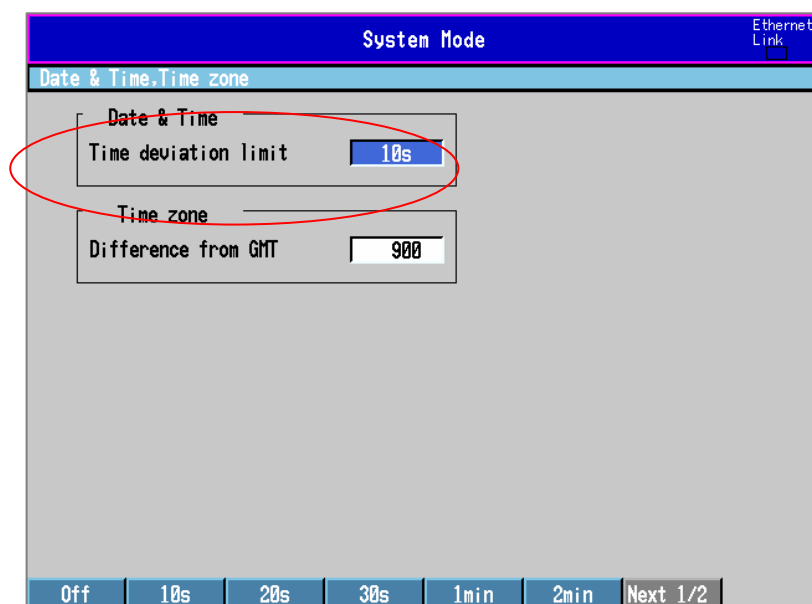

Fig. 4.1 Gradual time correction function setup screen
- When selecting [Date & Time, Time zone], the screen shown in Fig. 4.1 will appear.